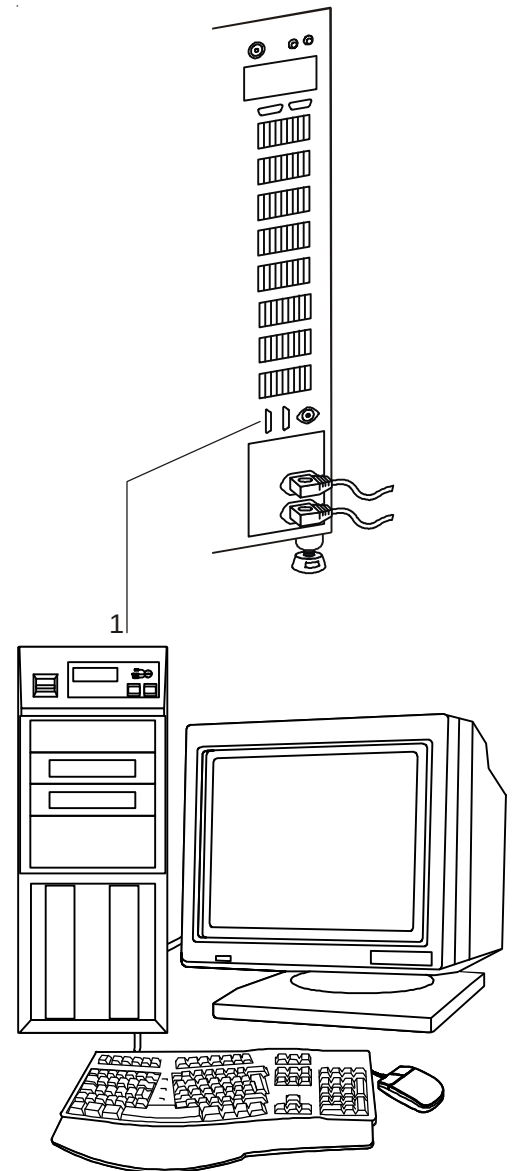

Fig. 26
1. **Fig. 26:** Turn computer system off.